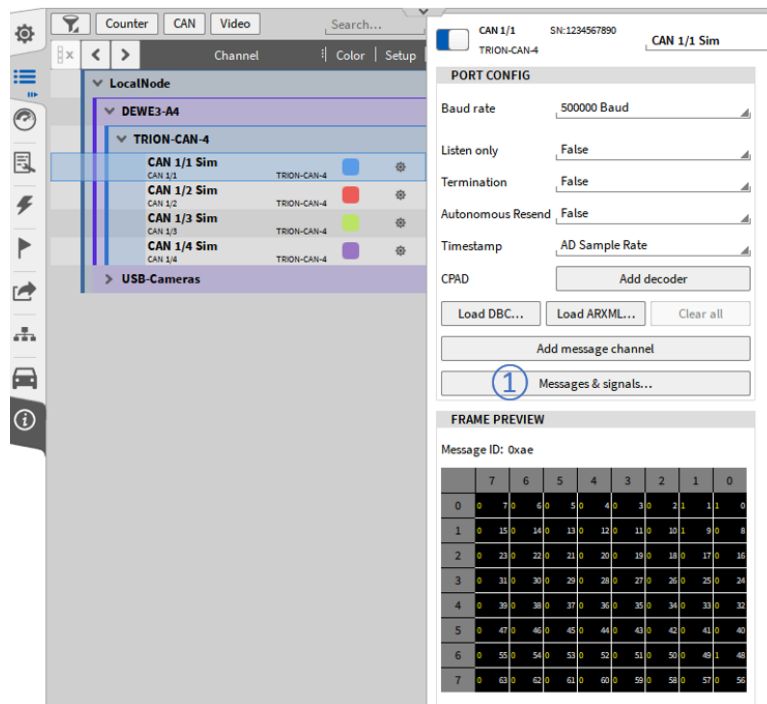

Fig. 7.203: CAN port configuration
Instead of using .dbc or .arxml files for data decoding it is also possible to add CAN messages and signals manually. OXYGEN provides a CAN editor for this purpose which can be opened by pressing the *Messages & signal* button the CAN port configuration (see ① in Fig. 7.203):